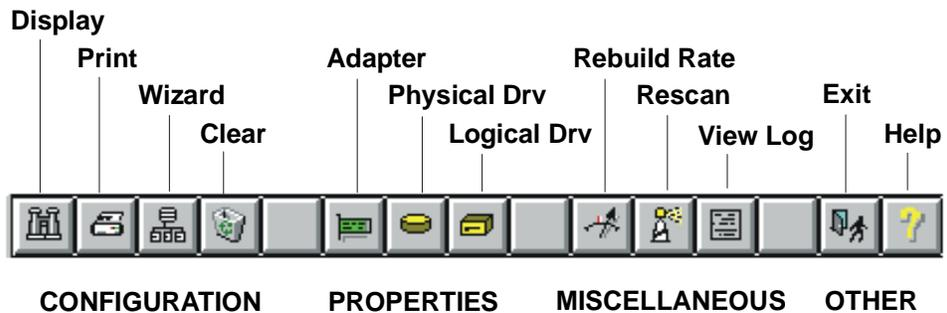

Figure 2-2. HP NetRAID Assistant Main Menu Toolbar Options
- **Toolbar:** The toolbar icons, which are shown in Figure 2-2, are separated into four categories of functions: Configuration, Properties, Miscellaneous, and Other. They provide shortcuts to access the menu options.